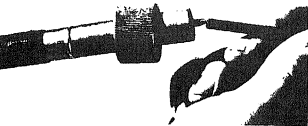

Figure 5. Pushing Flexible Shaft into Casing
b. Remove screw on right side of drive roll housing (Fig. 5).